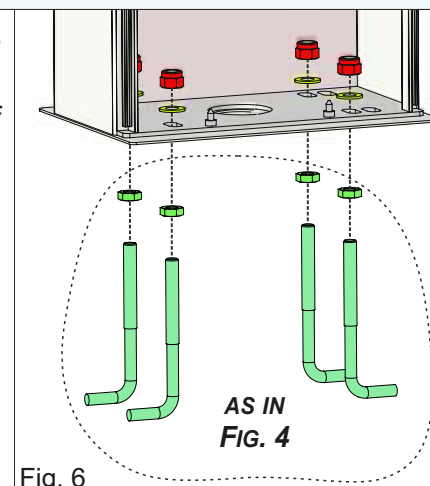
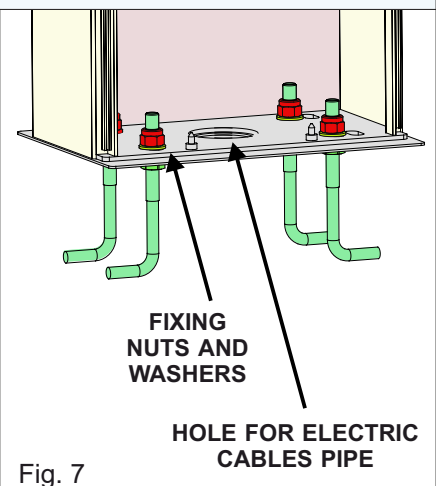

Fig. 6
Fig. 7
**3.3.** Fix the barrier housing to the foundation plate using the nuts and washers provided - Fig. 6 and Fig. 7